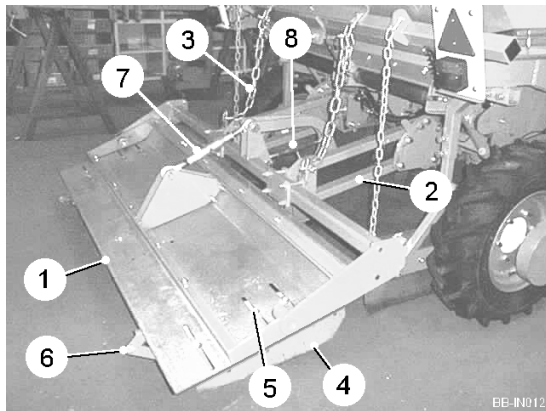
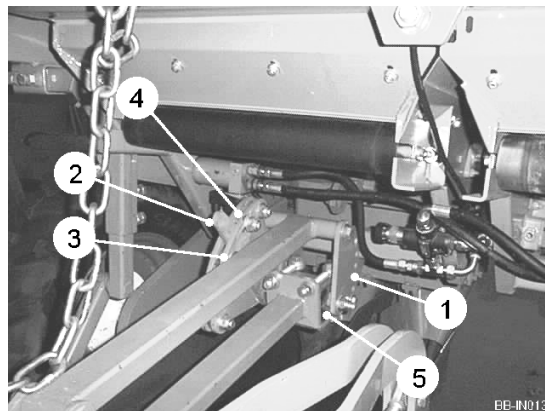

Fig 9
Fig 10
The ridgers / mould boards are mounted at the rear of the planter via parallel linkage arms (item 2, fig 9). During work these arms should be approximately 10° from horizontal. This can be achieved by repositioning the bolts (item 1, fig 10) into a different set of holes. The height and downward pressure exerted by the ridgers / mould board is controlled by the reaction arm (item 2, fig 10) and upper and lower stops. The lower stop (item 3, fig 10) controls the height, whilst simultaneously reduces the pressure. The upper stop (item 4, fig 10) induces a downward pressure by loading the rubber torsion springs (item 5, fig 10) within the lower arm pivots. Both stops are adjusted by loosening their retaining bolt and sliding the stop around the slot to the required position. If no pressure is required, the stops can be adjusted to allow the reaction (item 2, fig 10) to move freely.
The position of the wings (item 4, fig 9) is important to ensure a nicely formed bed. The outer wings are adjustable for both position and angle. The position of the wing determines the width of the finished bed. To adjust, loosen the mounting bolts (item 5, fig 9) and slide the outer wing assembly to the required position. The angle at which the wings operate will determine the shape of the bed. To adjust, loosen the retaining bolt (item 6, fig 9) and rotate the wings to the required position. The top link (item 7, fig 9) sets the mould board angle. Initially the angle should be set at approximately 5° from horizontal. Increasing the angle will allow more soil under the board.
The depth at which the centre plough operates is set using the top link (item 8, fig 9). The deeper the plough is set, the more soil it will push sideways. Care should be taken however as going too deep may move the seed in the bed.